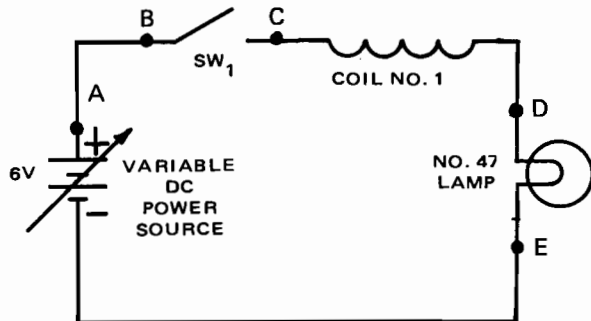

Fig. 9-1-2
- Turn off circuit switch and insert coil No. 1 between points C and D, as indicated in Fig. 9-1-2.